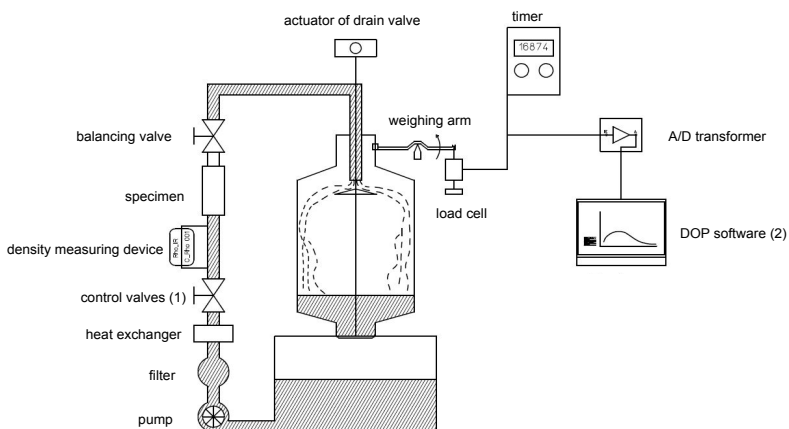

Fig. 8-3: Weighing system – preparing for the weighing process
The control valves (1) are set to the desired flow rate. The duration of calibrating the measuring point is determined by entering weight values in the DOP software (2) (setpoint 0 = tare weight; setpoint 1 = calibration weight) (Fig. 8-3)..